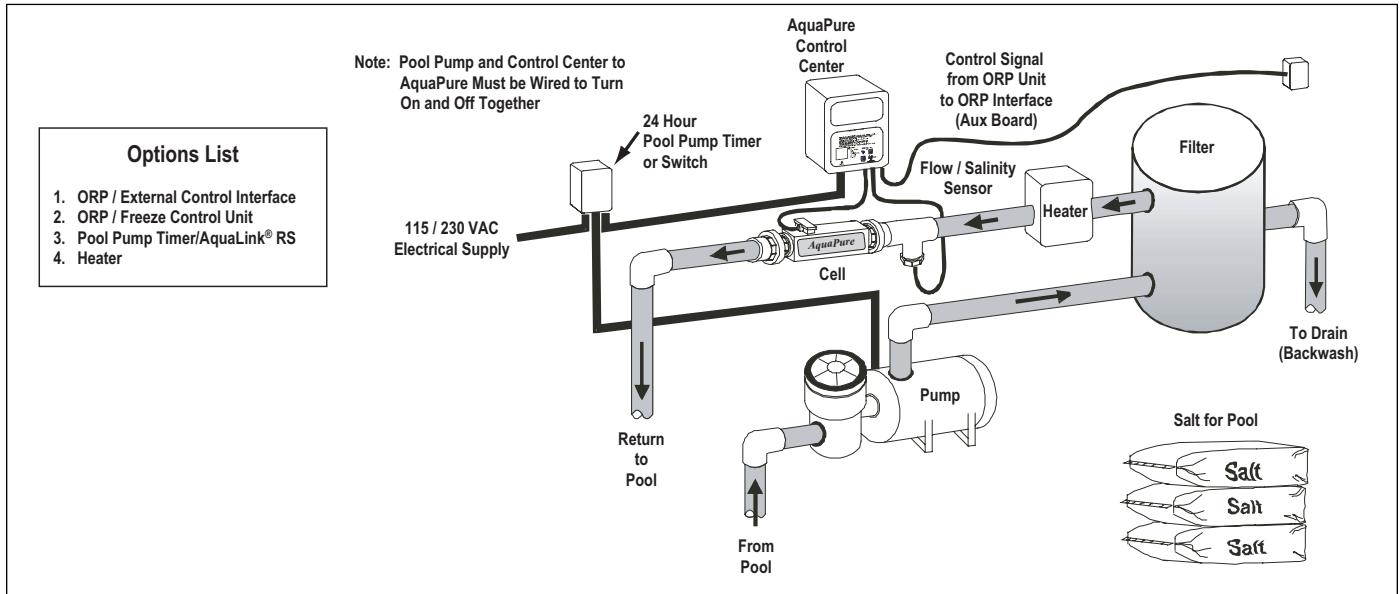
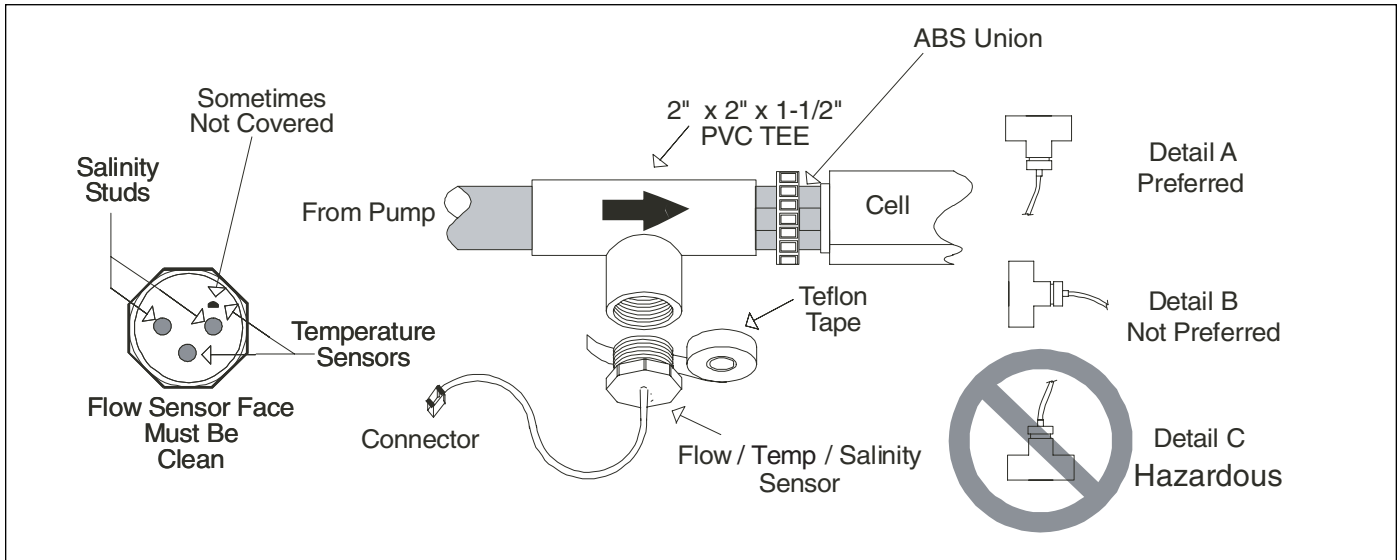

Figure 1. Typical AquaPure Installation With Options
Figure 10. Flow/Temp/Salinity Sensor
It is recommended that the water Flow/Temp/Salinity Sensor is installed in the same piping as the electrolytic cell, without any valves or diverters between them. (See page 5 Figure 1).
- Mount as shown in Figure 10 Detail A. This will result in the most reliable operation.
- (1) in the same line as the Electrolytic Cell.
- (2) with no valves or diverters between the Flow/Temp/Salinity Sensor and Cell.
- (3) preferably between the Pool Pump and the Cell.
- Do not mount the Flow/Temp/Salinity Sensor as shown in Detail C of Figure 10. This mounting position can be HAZARDOUS.
3. Position the Flow/Temp/Salinity Sensor Tee and Cell in the recommended position (See Figure 10 Detail A) and (page 5 Figure 1).